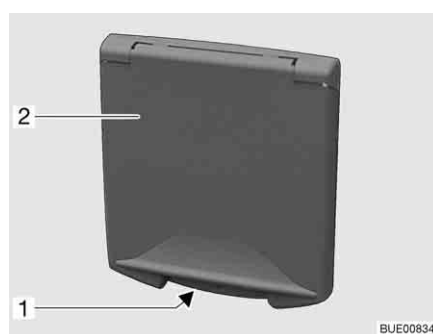

Fig. 66 Push-button lock service flap
- Insert the key into locking cylinder of the lockable push-button lock (Fig. 66,1) and turn a quarter turn. The push-button lock is unlatched.
- Insert the key into locking cylinder of the lockable push-button lock (Fig. 66,1) and turn a quarter turn. The push-button lock is locked.